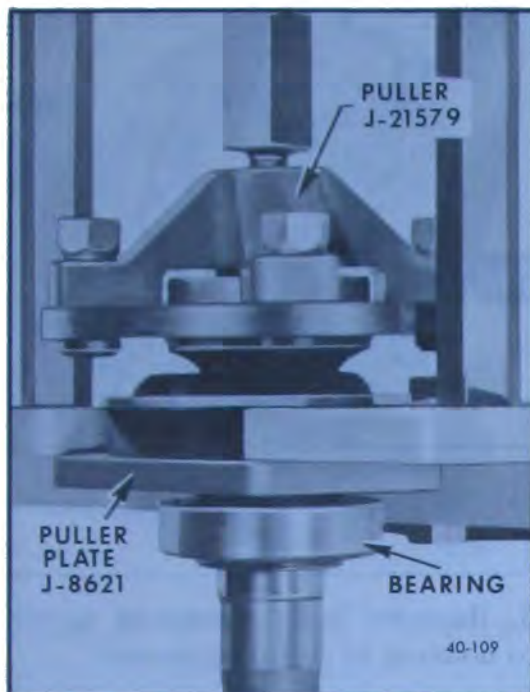

Figure 40-143—Removing Axle Shaft Bearing
2. Press axle shaft bearing off, using Puller Plate J-8621 with Remover J-6525 either in a press or in a set-up using Ram and Yoke Assembly as shown in Figure 40-143.